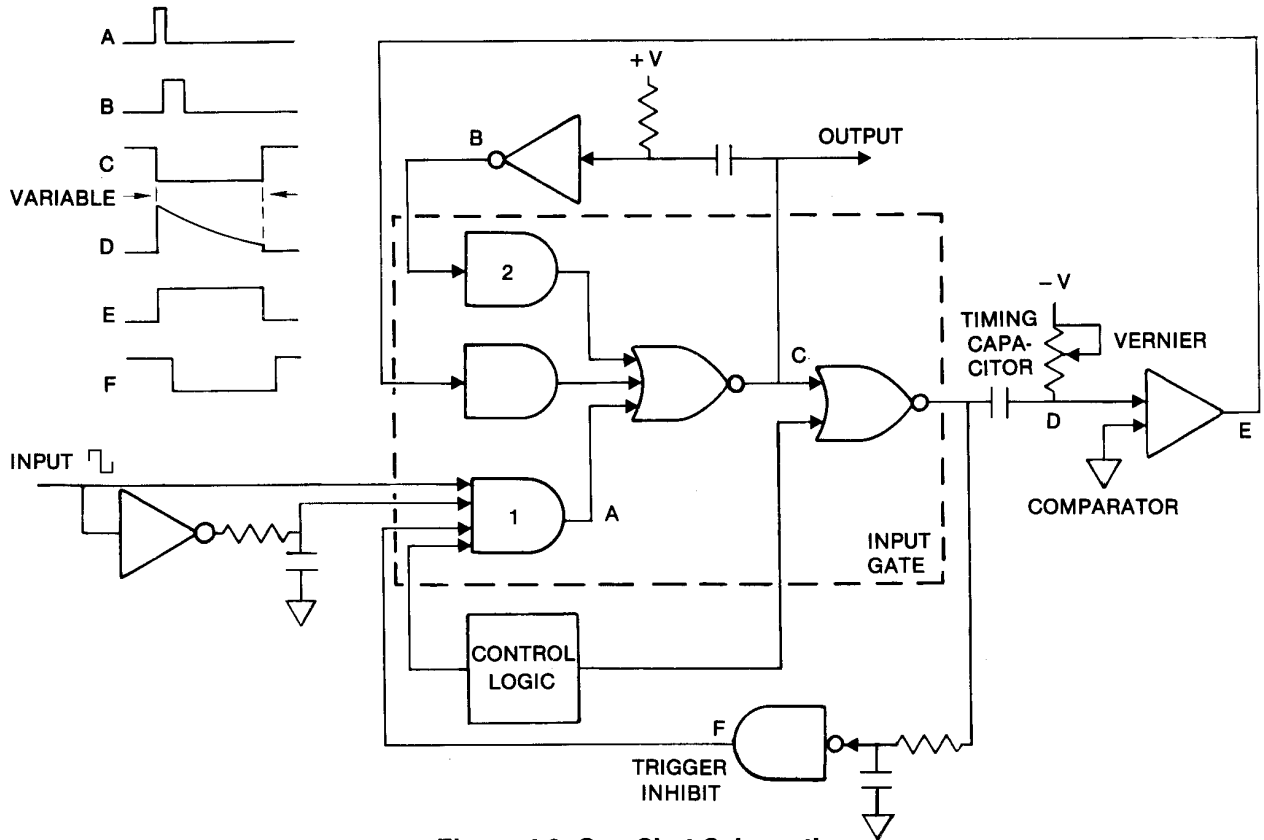
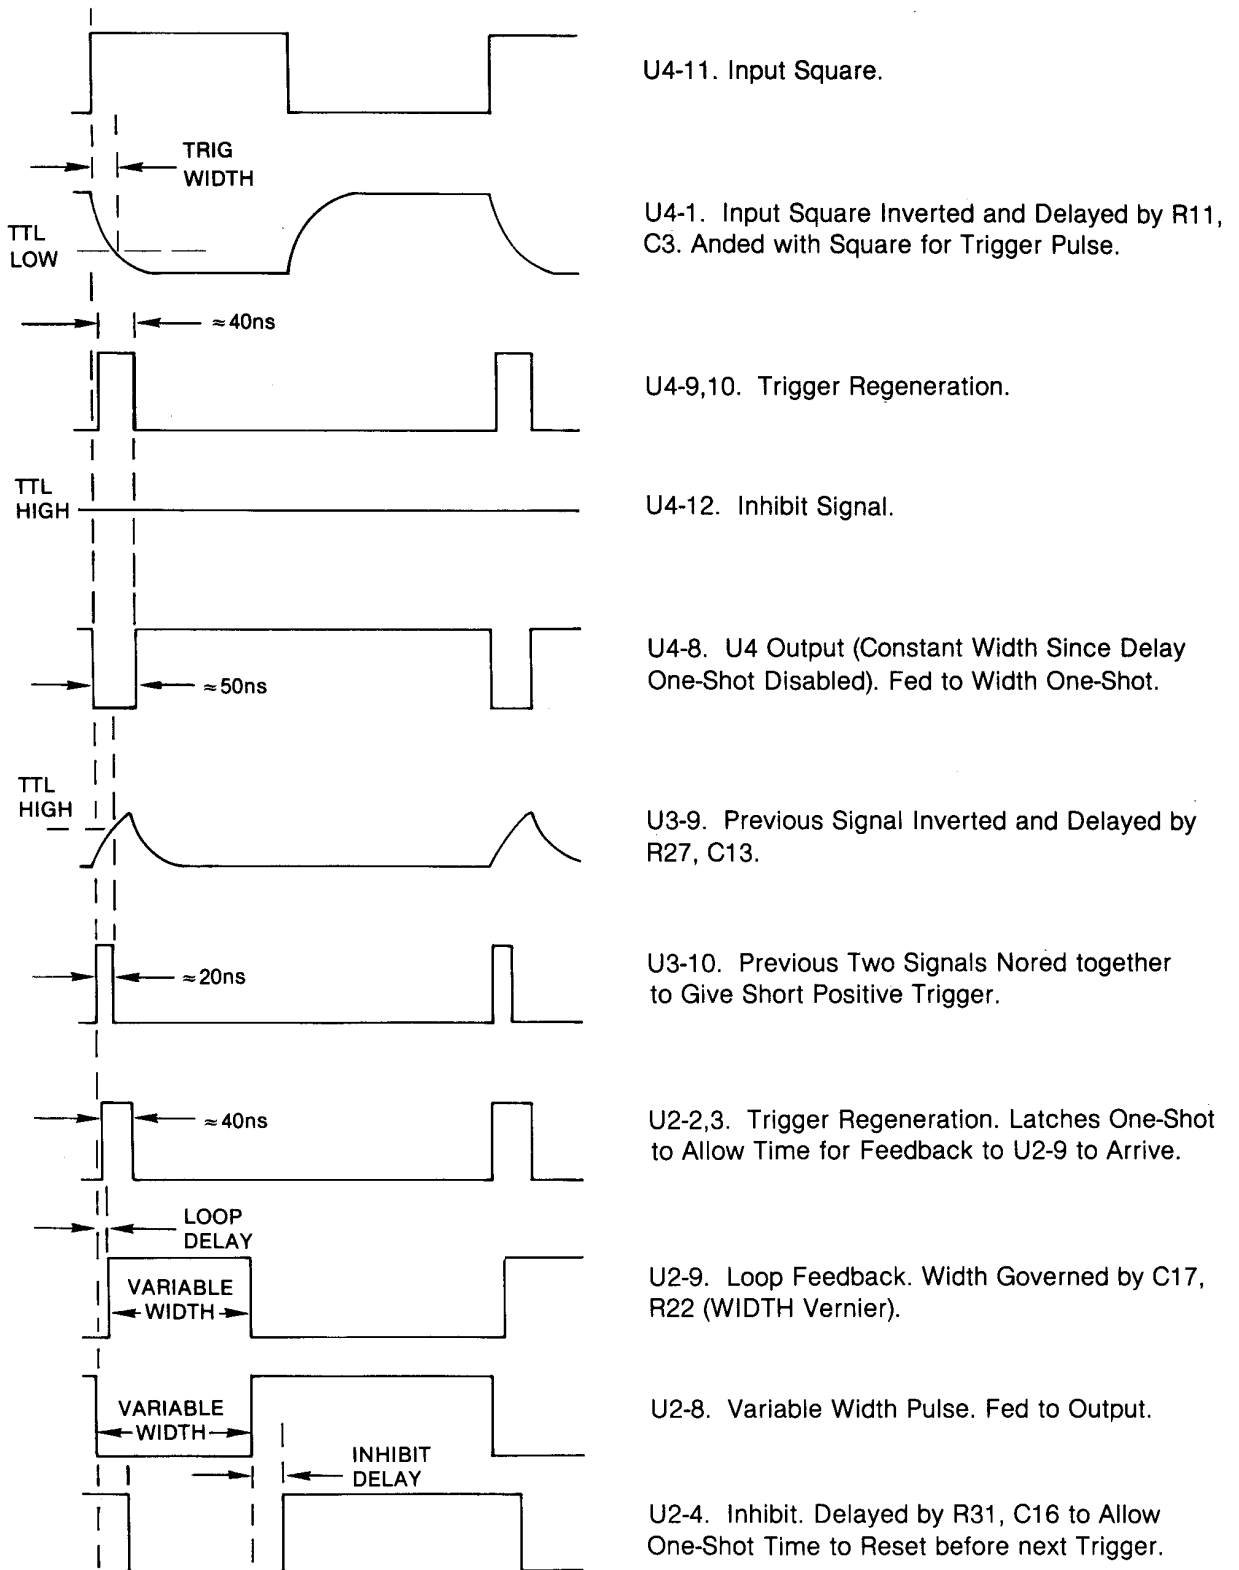

Figure 4-2. One Shot Schematic
Figure 4-3 Delay Off Mode Timing Chart
same, (figure 4-2) a simplified drawing illustrating one-shot principle of operation is applicable to both one-shots.
Two points can be observed about the control logic for this mode. First, for NOR gates of U4 and U2 to pass any signal, three of the unused inputs need to be at a logic low. Hence, the control logic must cause three of the AND gates feeding one of the NO gates to be low, and must cause the AND gate which will pass the signal to have all inputs high other than the signal input. Tracing from the square switch to the AND gates of U4 and U2 will reveal how this is accomplished. Note that these criteria must be met in the other modes also. Second, the circuitry which generates a one-shot triggering pulse (A) as illustrated in figure 4-2, is not needed when in square mode. Hence, the control logic effectively disables U4 pins 1 and 11 triggering input signal by grounding pin 13 of U4 and disables U2 11 and 12 by placing a +5 volts on U3 pin 5 (thus placing a low on U2 pin 12).
In DLY OFF mode the control logic inhibits the delay one-shot and enables the width one-shot. The delay one-shot is inhibited in the same manner as described for square mode. The width one-shot is enabled by placing a high on U2 pin 10 and placing a low on U3 pin 3. U4 AND gate pins 1 and 11 are enabled by placing a high on U2 pin 10 and placing a low on U3 pin 3. U4 AND gate pins 1 and 11 are enabled which causes a trigger pulse of constant duration from NOR gate pin 8. The negative transition of this pulse is fed to U3 pin 8 and is inverted and delayed before being fed to pin 9 of U3. The resulting output of U3 pin 10 is a smaller pulse width than that observed at pin 8 of U4 and a pulse which is positive. This pulse then triggers the one-shot in a manner as described for figure 4-2. Added to this one-shot are the timing capacitors for greater width variation. Refer to appendix B for voltage values of Q6, Q7 and Q8. Refer to figure 4-3
that has a variable low because of pulse width one-shot. Again this works as described for figure 4-2 with added capacitors to increase the delay pulse. The width one-shot is now set to trigger on the positive transition of the delay pulse. This is done by disabling U2 AND gate pin 5 to process the positive transition from U4 pin 8. The resulting triggering pulse corresponds to pulse (A) of figure 4-2. This trigger pulse will be felt at U2 pin 8 and will trigger the width one-shot. The width pulse will be variable as in DLY OFF. Refer to figure 4-4 for a more complete examination of this mode.